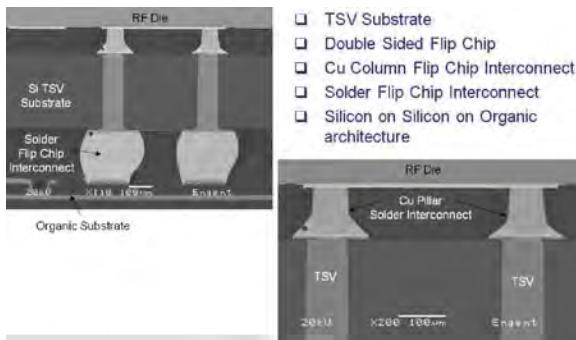

Figure 3. High Speed RF Module with Die to Interposer Integration "C 2 RF Devices and 2 Processors to TSV Interposer
Die-to-interposer integration is another innovative way to achieve 3D D2D/D2W. **Figure 3** shows a cross-section of a high-speed RF module with eight heterogeneous die (4 GaAs, 2 SiGe, 2 Si) flip chip bonded to an integrated TSV Si interposer substrate. Three different flip chip interconnects are
**Figure 3** illustrates a copper column-solder flip chip interconnect between a high speed GaAs RF device and TSV interposer as well as the solder flip chip interconnect between the TSV interposer and the high density organic substrate. This module includes flip chip pitches down to 150mm, high-density